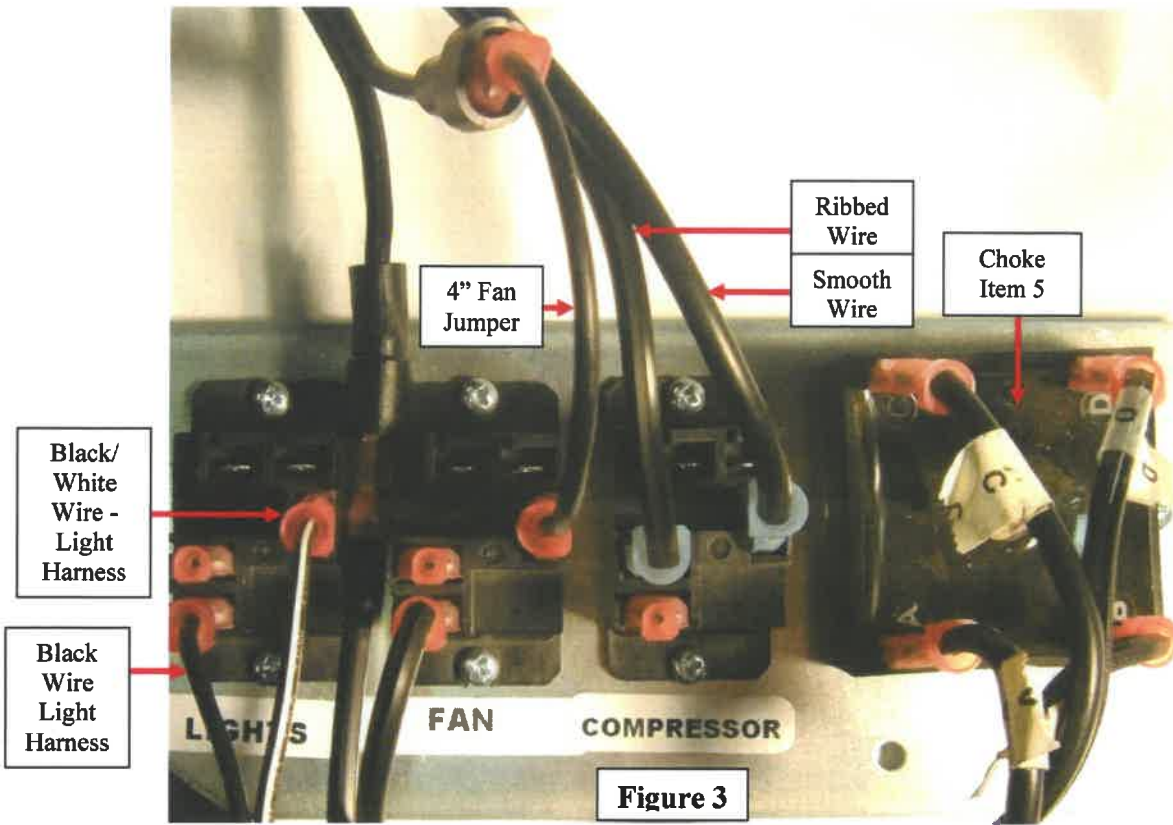

Figure 3
3. Detachable Main Wiring Harness connections (see Figures 3 and 4, page 4):
- b. The other 'ribbed' side of 48" Fan AC Power Jumper (item #2) is connected to the 'ribbed' side of Evaporator Fan Leads. One end of the 'smooth' side of 48" Fan AC Power Jumper (item #2) is connected to the smooth side of the Evaporator Fan Leads and the other smooth side of the 48" Fan AC Power Jumper (item #2) is connected to the 'NC' contacts of Fan Relay (see Figure 3).
- c. The 'smooth' side of AC Fan connector (item B) of Detachable Main Wiring Harness (item #4) is connected to one side of the 4" AC Fan Power Jumper (804,917,46x.x1) to the Fan Relay (see Figure 3).
- d. The remaining side of the 4" AC Fan Power Jumper to the Fan Relay is connected to "Common" contacts of Fan Relay (see Figure 3).
- e. The 'ribbed' side of 'A', of the Detachable Main Wiring Harness (item #4) is connected to "NO" contact of the Compressor Relay (see Figure 3).
- f. The 'smooth' side of 'A' of the Detachable Main Wiring Harness (item #4, page 3) is connected to "Common" contacts of the Compressor Relay (see Figure 3).
4. AC Light Harness (804,917,37x.x1) connections (see Figure 3 and 4, page 4):
- a. The Black Wire of AC Light Harness is connected to the "NC" (Normally Closed) contact of the Light Relay (see Figure 3, page 4).
- b. The White/Black Wire of AC Light Harness is connected to the "C" (Common) contact of the Light Relay (see Figure 3).
- 7. The Choke and Filter/Stack Plug Lead comes in the kit as an assembly (631,006,20x.x3). Figure 3 and 4 on page 4 can be used for reference for assembly. The following are instructions for assembling the Choke Plate Assembly: